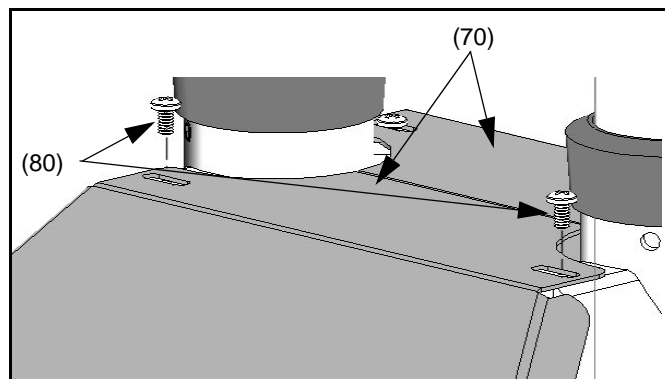

Figure 7: Install Base Covers
3. Install two base covers (70) and secure using four 10-24 X 3/8"Phillips screws (80) (see figure 7).